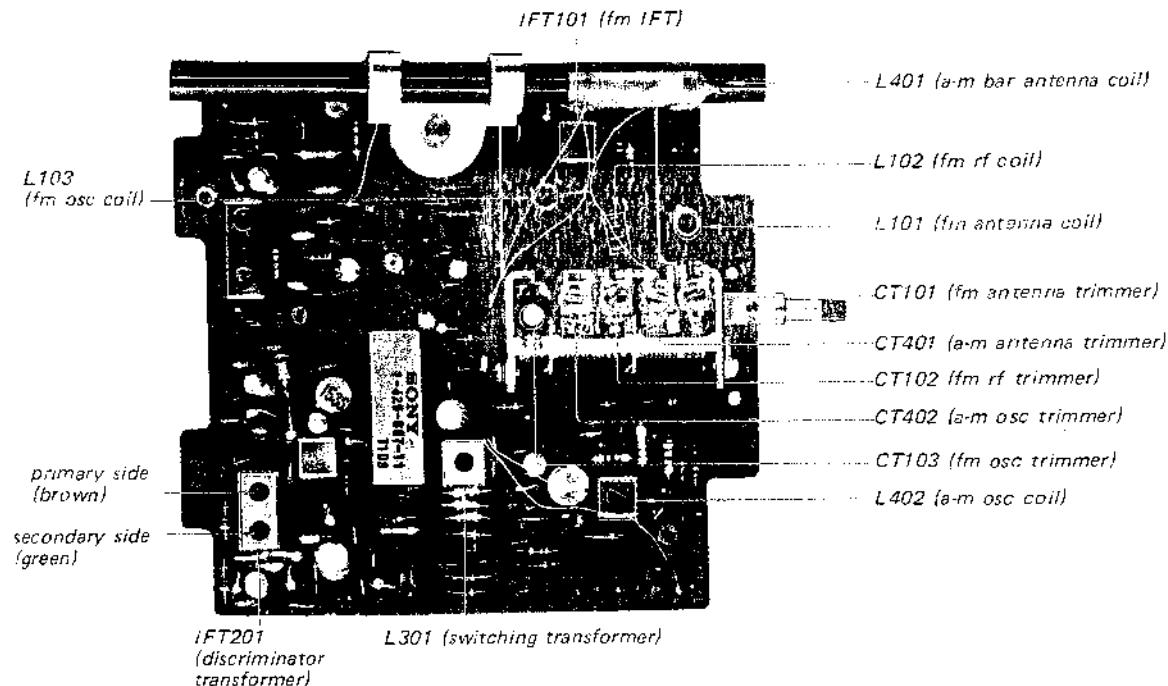

Fig. 3-12. Adjusting parts location
- Turn the secondary side core (green) of discriminator transformer IFT201 (see Fig. 3-12) with an alignment tool to obtain a minimum indication on the oscilloscope as shown in Fig. 3-6.
- Turn the core of fm IFT101 and primary side core (brown) of discriminator transformer IFT201 (see Fig. 3-12), to obtain the maximum output.
2. Precisely tune the set to the SSG's carrier frequency then turn the top core of switching transformer L301 (see Fig. 3-12) to obtain maximum output at the left channel.
5. The output-level to residual-level ratio represents the separation. Turn the top core of switching transformer L301 (see Fig. 3-12) for minimum residual level. Check the right channel for separation.